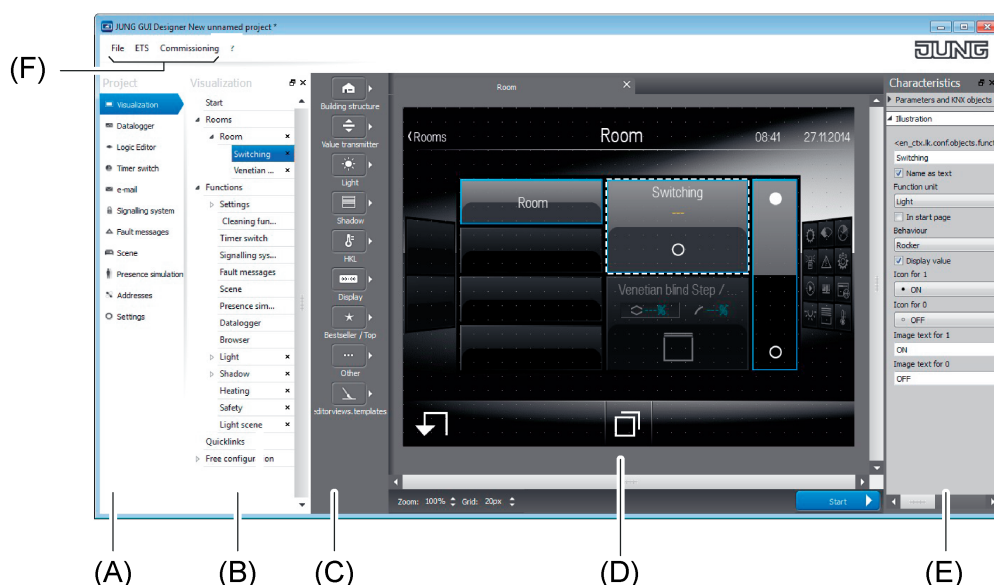

Figure 4: Structure of the program interface (standard structure)
The program interface is subdivided into different areas (figure 4), in which the project design of the device can be structured. Structure trees in the project bar (A) and in the structure view (B) make it easier to navigate through the functions, device settings and display pages. Display pages can be set up quickly and customer-friendly as well as freely according to individual criteria by using a template library with building structures and KNX functions in the templates bar (C). A large work area (D) allows the set project design to be previewed and simulated. Parameters of functions or graphic display elements are available clearly in property lists (E) or on special display pages in the work area. All program functions (file operations, ETS synchronisation, commissioning) can be retrieved and executed via the menu bar (F). Many configuration processes - for example, the creation of new rooms and KNX functions - can be executed with the mouse by drag & drop.